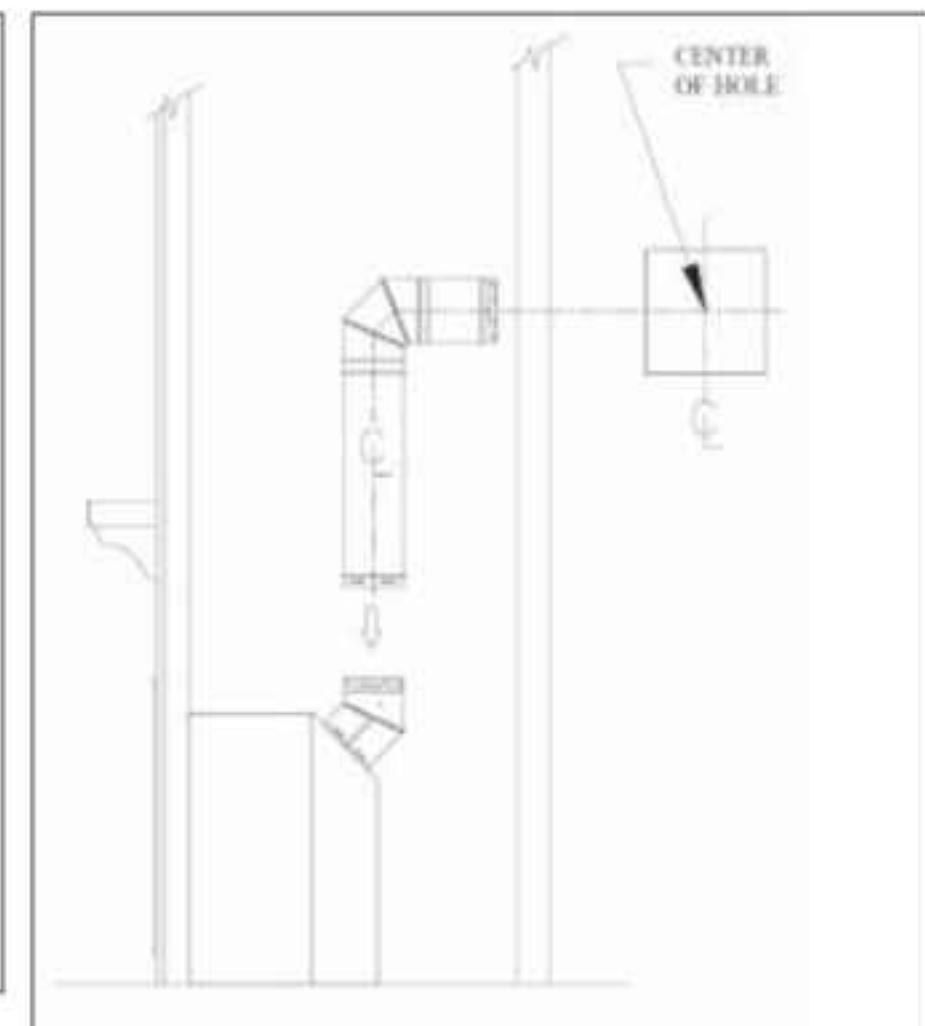

Figure 35: Horizontal Venting and Cut Away.
**Step 3.** With the adaptor and pipe attached to the fireplace, slide the fireplace into its correct location, and mark the wall for a square hole of the appropriate size. Use 11"x11" (280x280mm) square hole for 8" x 5" pipe. The center of the square hole should line up with the centerline of the horizontal pipe, as shown in Figure 35. Cut and frame the square hole in the exterior wall where the vent will be terminated. If the wall being penetrated is constructed of non-combustible material, i.e. masonry block or concrete, a hole with zero clearance to the pipe is acceptable.